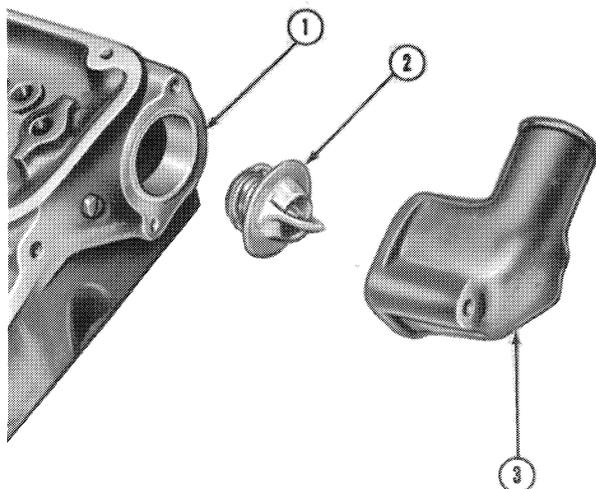

Figure 4
1. Remove the two bolts that attach the water outlet connection to the cylinder head. Remove the connection, thermostat, and gasket, Figure 4.